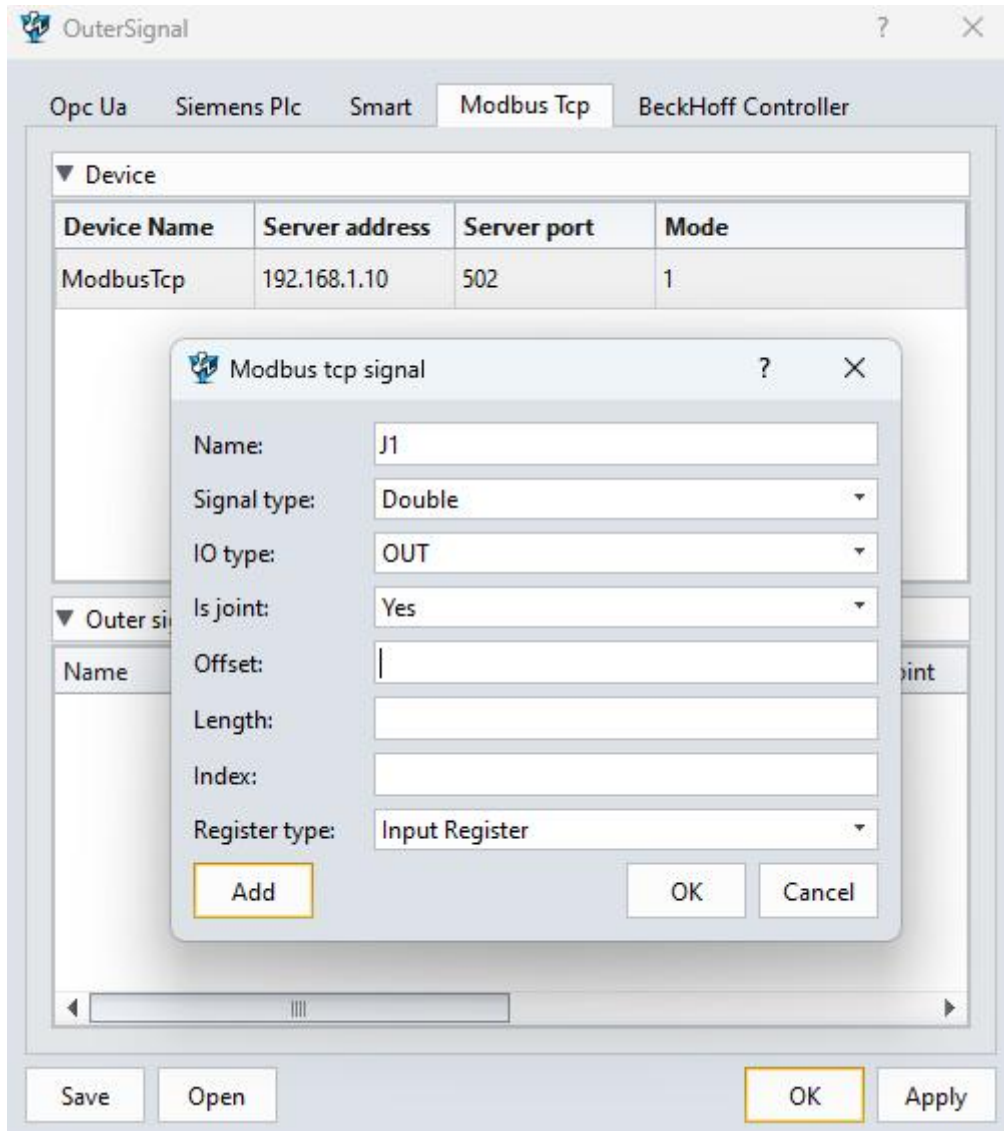

Figure 12-14: Add joint signal
- In the pop-up window: (Figure 12-14)